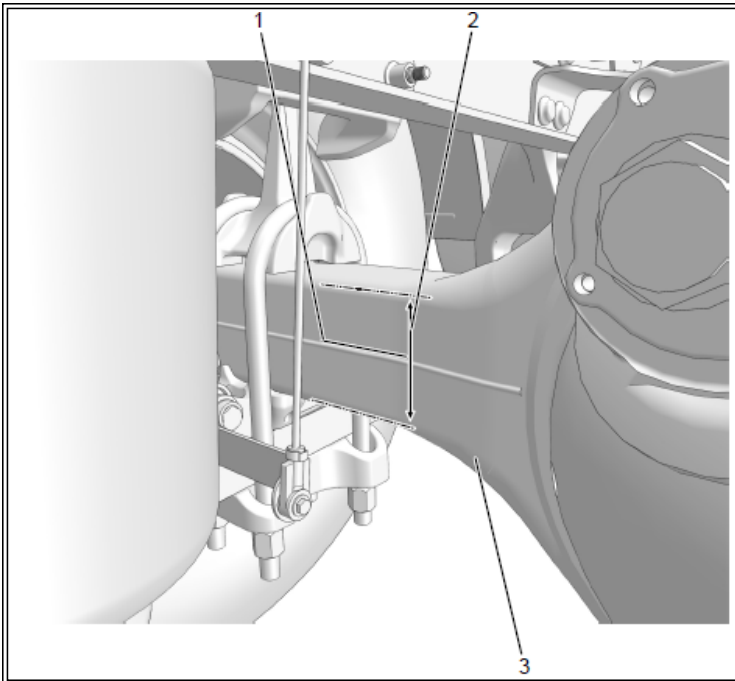

Figure 2: Axle tube rear center line
5. At the same wheel end of axle tube (3), measure vertically on the rear of the axle tube (2) and find the center of the axle tube. See Figure 2.
6. Mark a line on the rear of the axle tube indicating the center measurement of the axle tube (1). See Figure 2.